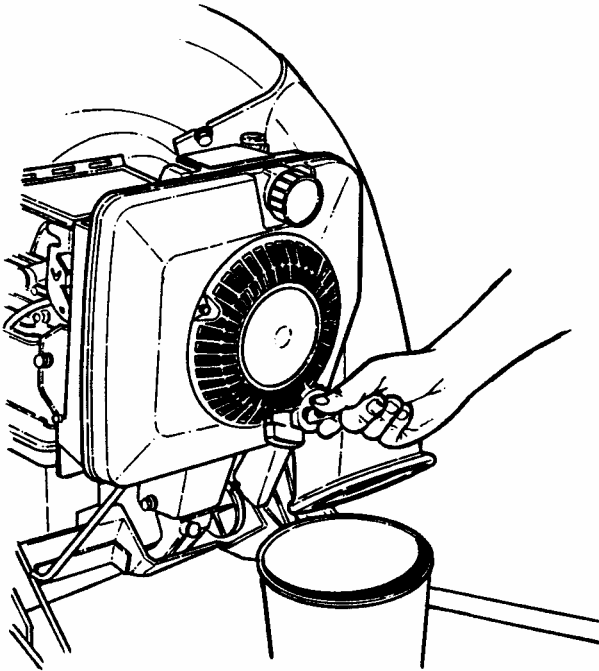

FIGURE 3.1
2. For simplest/cleanest oil change, loosen lower handle wing nuts and stand mower up on lower handle as shown in Figure 3.1. Drain oil through dipstick tube into a container.